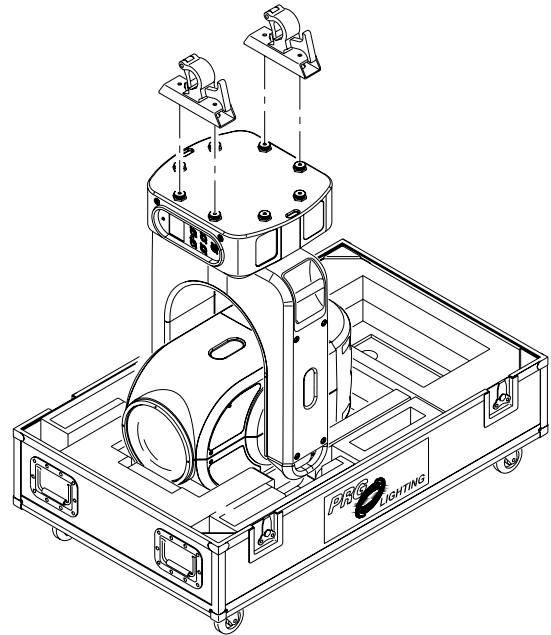

Figure 2-6: Attaching Hanging Brackets
- Step 1. Orient Hanging Brackets as shown in Figure 2-6.
CAUTION: Hanging Brackets must be installed in the orientation shown in Figure 2-6 so that the interface panel (display) will face downward.